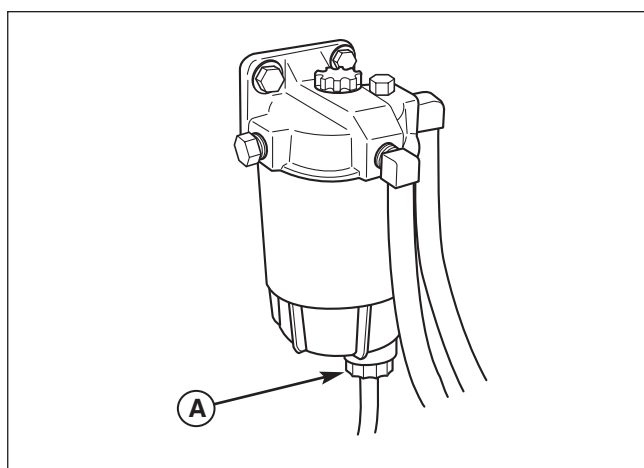

Figure 14. Drain Fuel Filter
2. Allow the engine to cool for five (5) minutes before draining the fuel filter.
3. Place a container under the drain valve (A, Figure 14) and turn the drain valve approximately 1-2 turns.